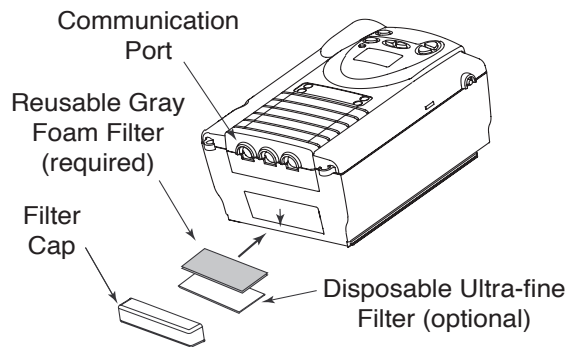

Figure 5-1 Installing the Air Filters
2. Slide the filters into the air inlet at the rear of the device (with the white filter going in first, if it's used). Push them down into the recess as shown in Figure 5-1.